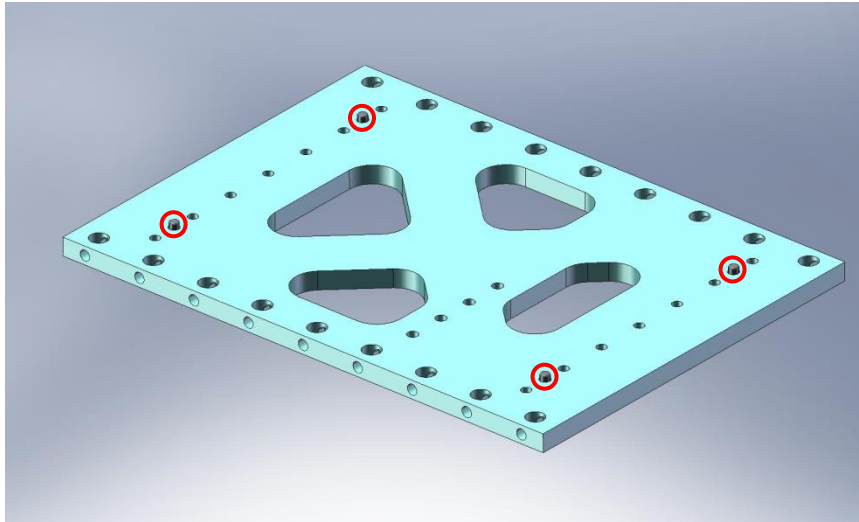

Figure 3.5. Dowel pins pressed into side of Tangential Rib (D071070).
- Press (4) 3/8"x.75" dowel pins into each of (3) **Rib, Tan, Flexure Cen** plates (D071070). The pins should all stand .25" proud of the plate surface, as shown in Figure 3.5.